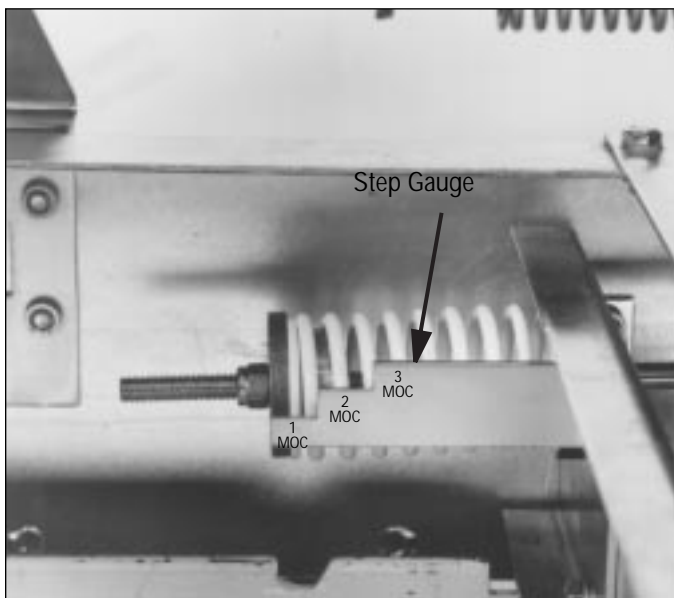

Figure 4-2 Drive Spring Adjusted for 0 or 1 MOC Switch
Step 3: From the factory, the drive spring comes set for 0 or 1 MOC switch. Refer to Figure 4-2 to see how that adjustment would look. Notice that there is a nut and a jam nut on the threaded rod to make the adjustment easy. Also notice that a step gauge is provided and bolted next to the spring to further simplify the adjustment (Figures 4-2 and 4-3).